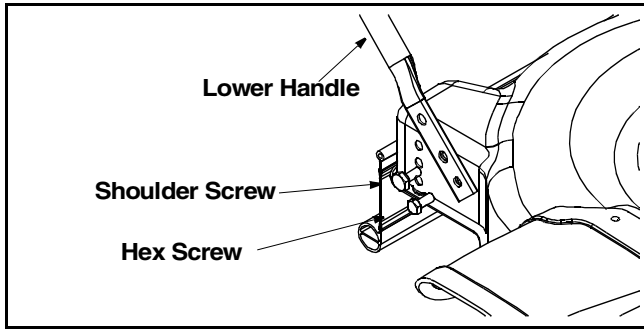

Figure 2
- Install the hex screws, shoulder screws and flange nuts from group 4 of the hardware pack. Using two 1/2" wrenches, tighten securely. See Figure 2.